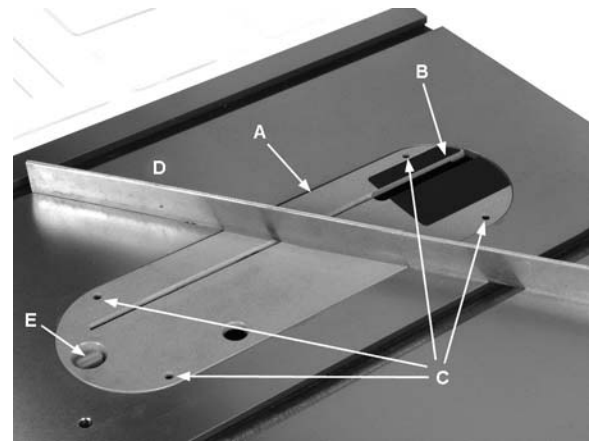

Figure 18
2. Remove table insert by rotating lever (shown at E, Figure 18) and lifting up insert using finger hole.
Referring to Figure 18: